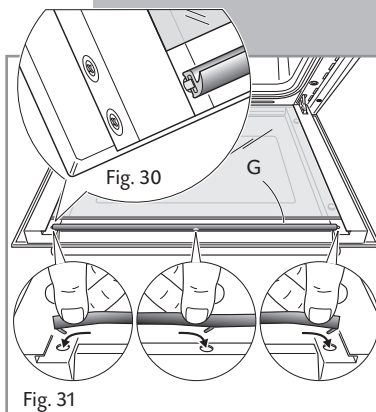

Fig. 31
- **Top oven door only:** Reassemble the seal **G** in the correct way (fig. 30) by hooking the no. 3 fixing hooks in the proper holes (fig. 31).